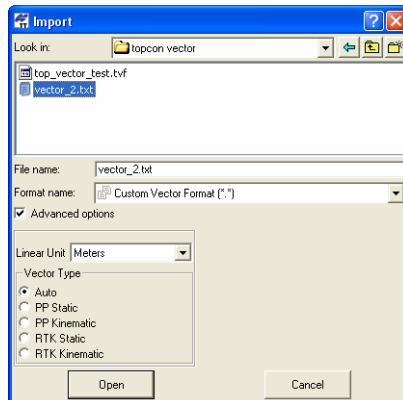

Figure 3-19. Import Custom Vector Format File
5. Click **Open** (or **Save** if exporting) to set custom format properties (Figure 3-19).